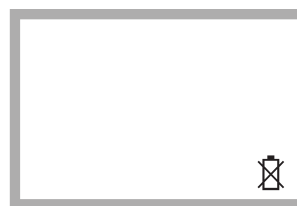

Figure 8
1. Replace battery when "🔋" appears in the **lower right** corner of LCD display. (See Figure 8)